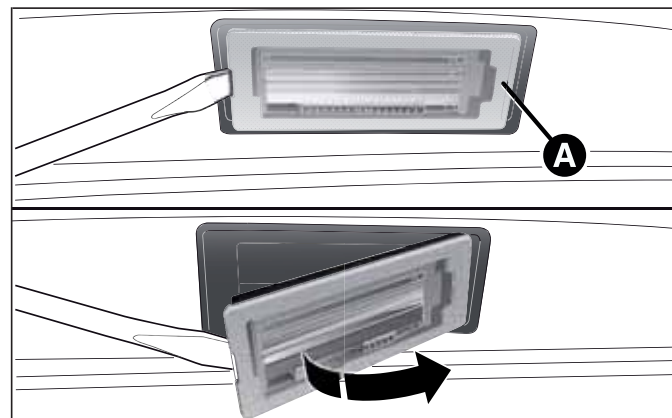

fig. 135
- ☐ remove lens A fig. 135;
- ☐ refit the lens A fig. 135.